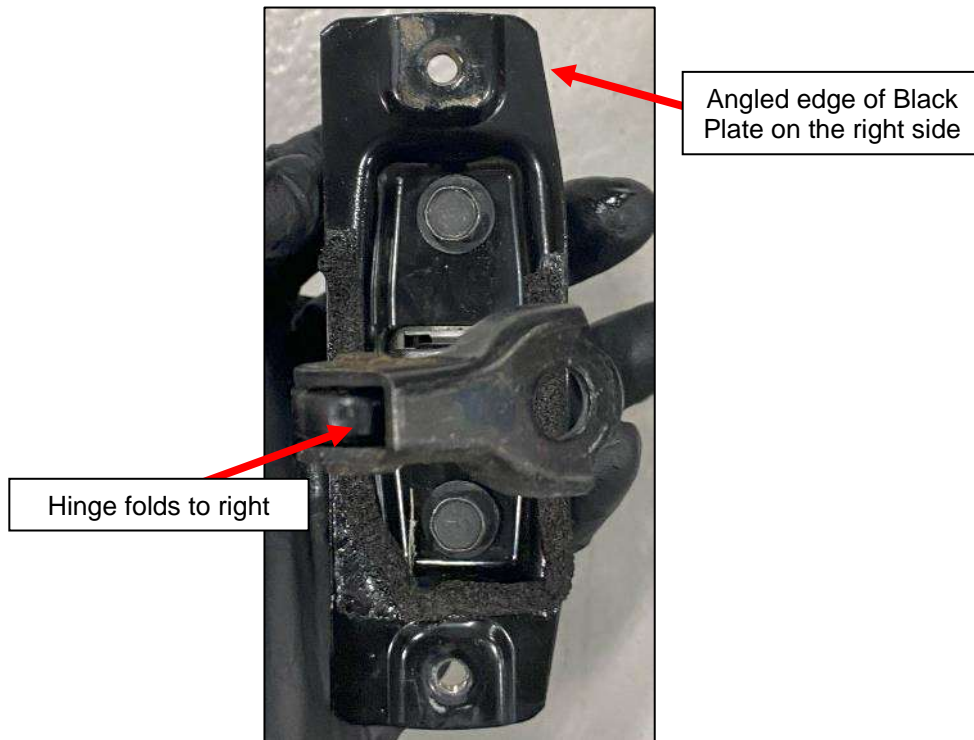

Figure 103
3. Make a note of the Orientation of the Black Plate on the Silver Plate in relation to the Check Link Assembly. It will need to be reinstalled in the same orientation. *Figure 103.*